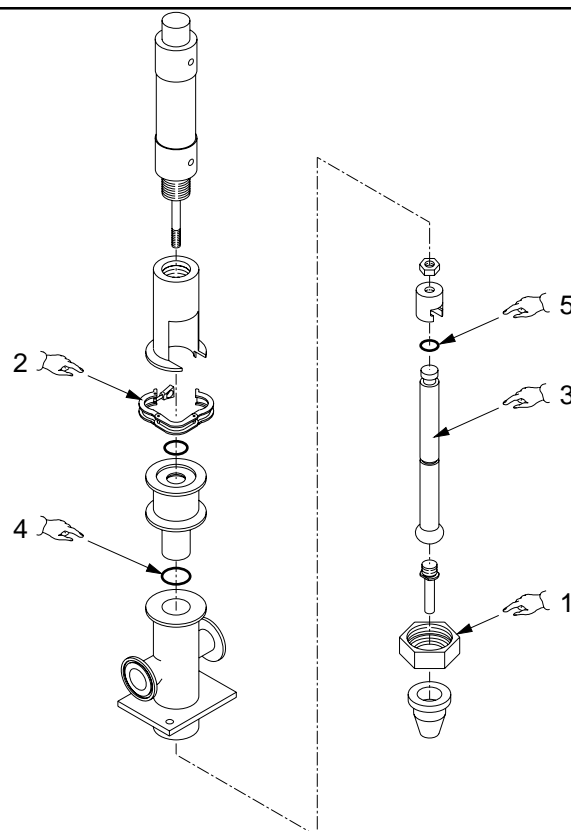

Fig. 7.2
- unscrew the bottom ring nut (*Pos. 1, Fig. 7.2*);
- open the clamp joining the lower and upper parts (*Pos. 2, Fig. 7.2*);
- extract the doser piston shaft (*Pos. 3, Fig. 7.2*).
With the doser dismantled, check the efficiency of the O-rings (*Pos. 4-5, Fig. 7.2*) on the stem. If they are worn, ice cream will leak from the top of the doser.